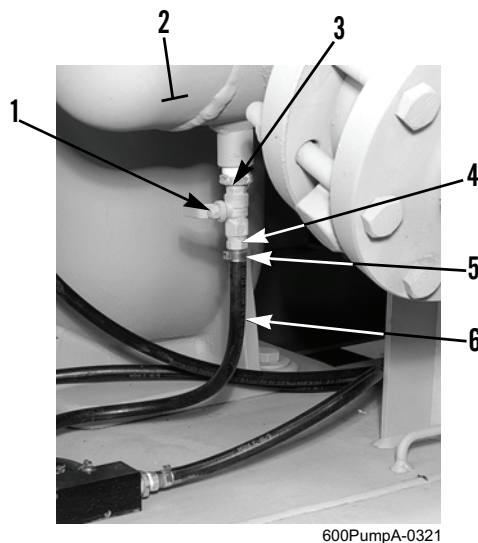

Figure 17. Discharge Manifold Drain Valve and Hose.
25. Install reducer fitting (Figure 17, Item 3) and discharge manifold drain valve (Figure 17, Item 1) on discharge manifold (Figure 17, Item 2).
26. Position new hose clamp (Figure 17, Item 5) on discharge manifold drain hose (Figure 17, Item 6). Hold hose and install barb fitting (Figure 17, Item 4) on discharge manifold drain valve (Figure 17, Item 1). Tighten hose clamp.
27. Ensure discharge manifold drain valve (Figure 17, Item 1) is closed.